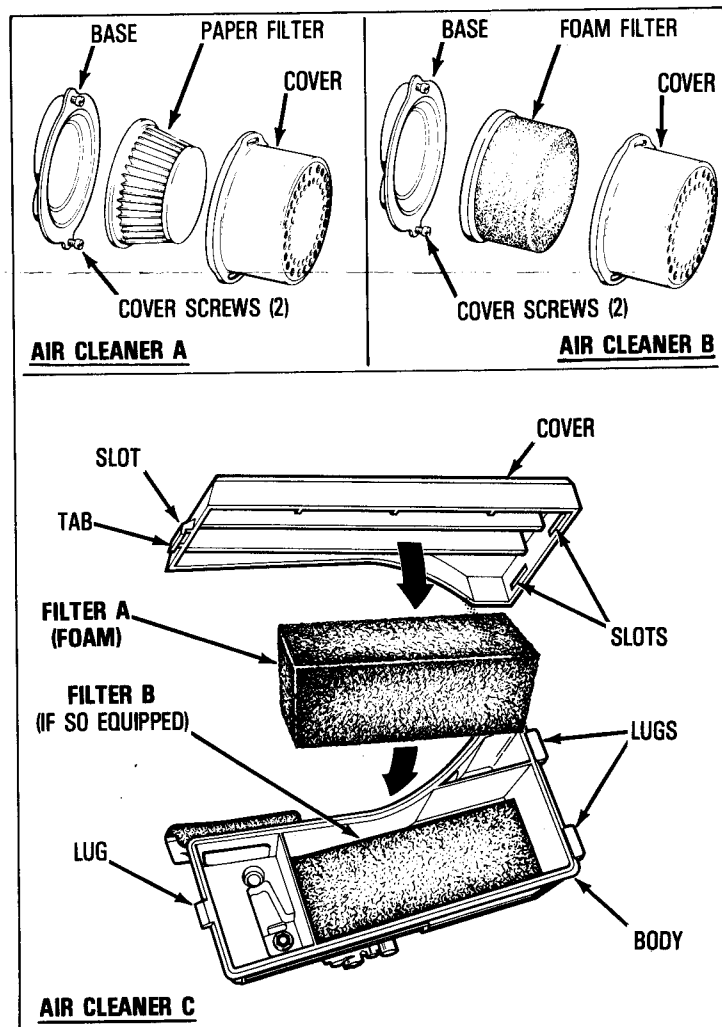

Figure 3
A. TO SERVICE FILTER(S) (see Figure 3):
AIR CLEANER A (see Figure 3):
AIR CLEANER B (see Figure 3):
AIR CLEANER C (see Figure 3):